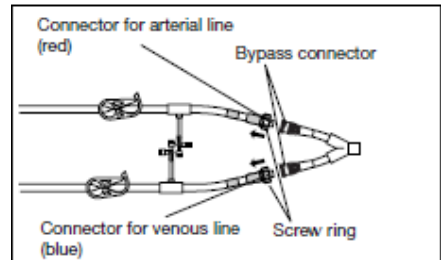

Figure 17
3. Loosen each screw wing for the arterial line and the venous line to remove the bypass connector (Figure 17).